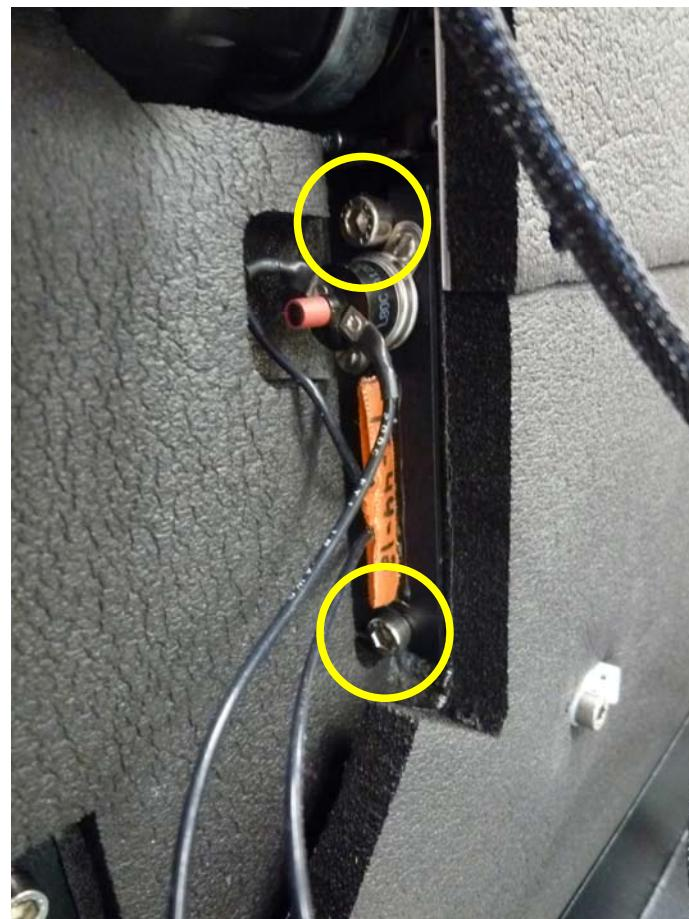

Figure 27
3. Remove two M5 hex screws that secure the Heater Bar (**Figure 27**).